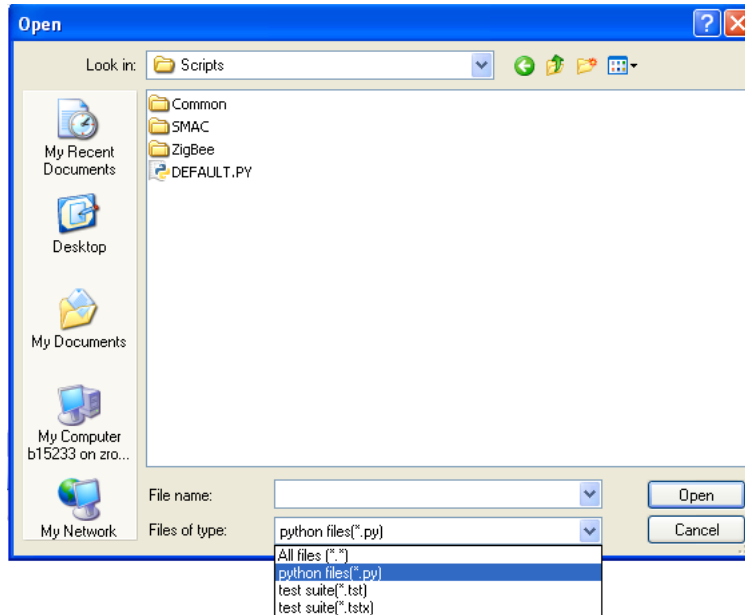

Figure 3-6. Select Script or Test Set
1. Click the Add button and a standard file selection window appears as shown in Figure 3-6. This allows users to search for Scripts and Test Sets. The File Types (file extensions) are `.py` for Python Scripts and `.tst` or `.tstx` for Script Server Test Sets. User can select multiple files. Scripts and Test Sets can also be added by drag and drop to the scripts list area.